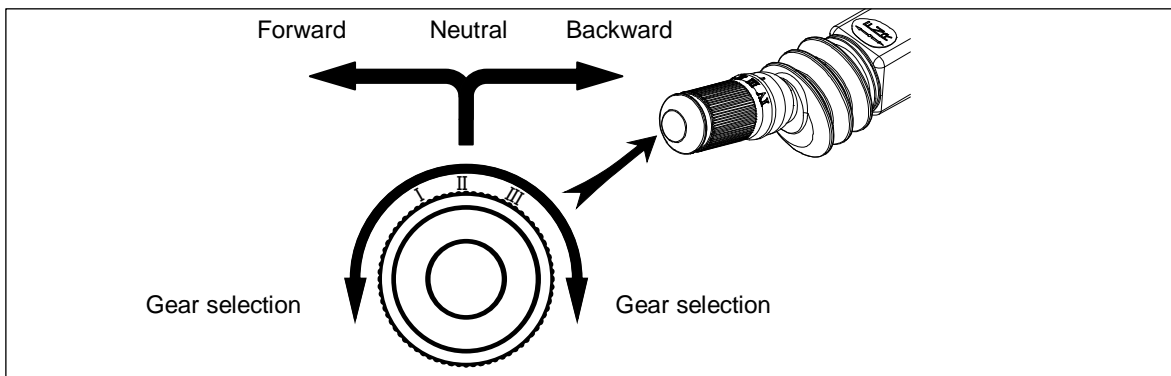

Figure 6-10 Gear Selector
1. **GEAR SELECTOR** – Use to control the transmission gear selection. Pull in the direction of the operator for reverse. Push in the direction of the dash for forward. Turn the handle to set the speed. Refer to Figure 6-10.